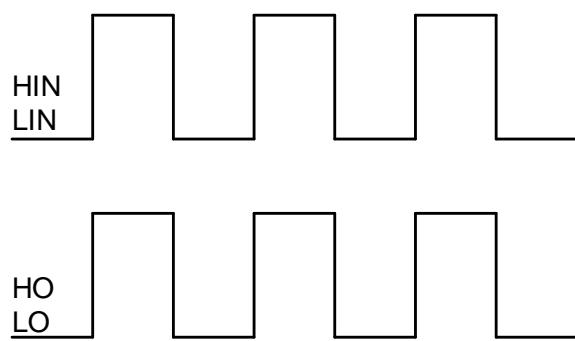

Figure 1. Input/Output Timing Diagram
**Note:** The input/output logic timing diagram is shown in Figure 1. For proper operation the device should be used within the recommended conditions. The  $V_s$  offset rating is tested with all supplies biased at a 15 V differential.
| Page 1                               | Removed "Fig 1."   |